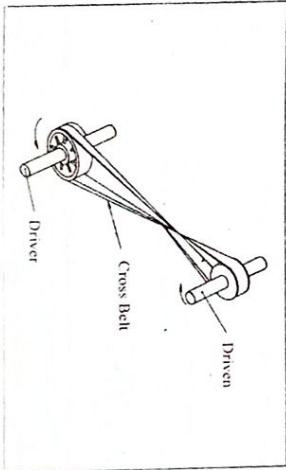

Fig. 2 : Simplified View of Cross Belt Drive
2. **Cross Belt Drive :** In this type of belt, the driven pulley rotates in direction opposite to that of the driver pulley (Figure 2). The arrangement of shafts is usually parallel. The power transmitting capacity of a cross belt drive is more than an open belt drive. This is due to high value of the angle of wrap. The belt rubs against each other at the point of intersection which leads to excessive wear and tear. To reduce excessive wear, shafts should have optimum distance between them, i.e., a distance of more than $20b$ where b is the belt width. Also, they should be operated around a speed of 15 m/s .